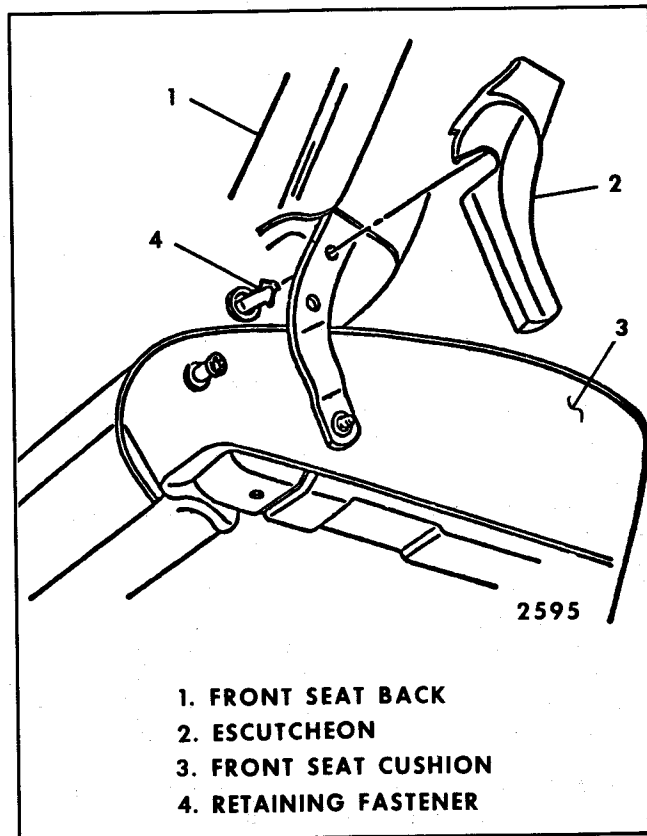

Fig. 9-14-Front Seat Back Inner Hinge Arm Escutcheon Assembly
5. Remove seat back inner hinge arm escutcheon and attaching bolt (Figs. 9-14 and 9-15) and remove seat back.